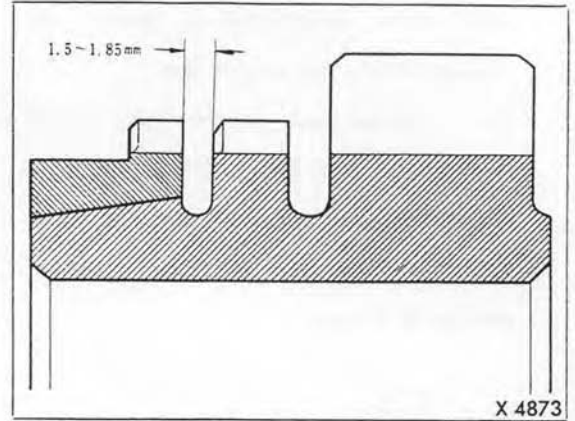

Fig. 3-38. Measuring the clearance of synchronizer ring.
E. Synchronizer Rings. Inspect the synchronizer ring for broken, cracked, or otherwise damaged lugs. Engage a ring onto the main drive gear or second speed gear, and measure the clearance as shown in the figure. (Fig. 3-38)